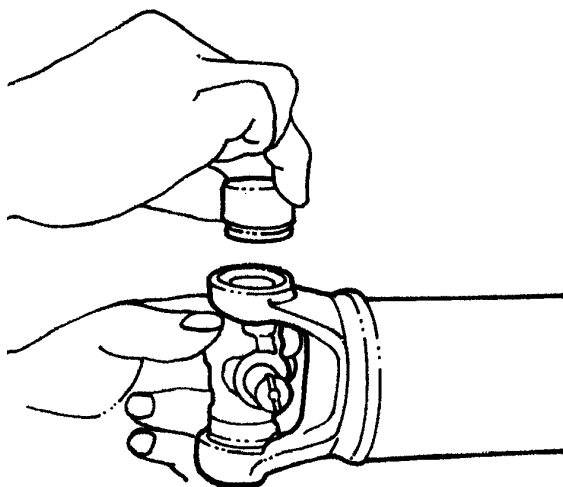

Figure 21 Place Bearing Cap onto Journal
9. Place a bearing cap onto the journal and align it to the cross hole (Figure 21).